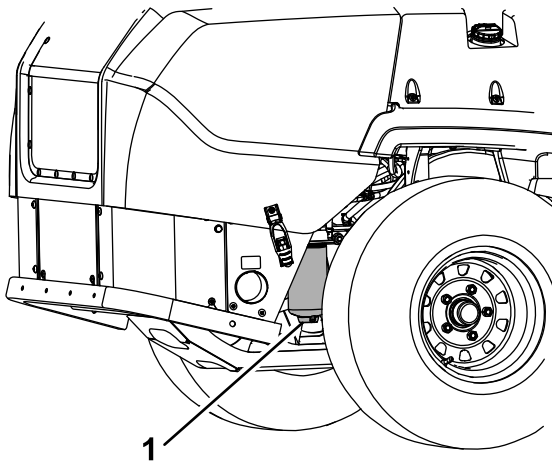

Figure 43
3. Place a drain pan under the fuel filter and loosen the drain plug approximately 1 turn (Figure 43).